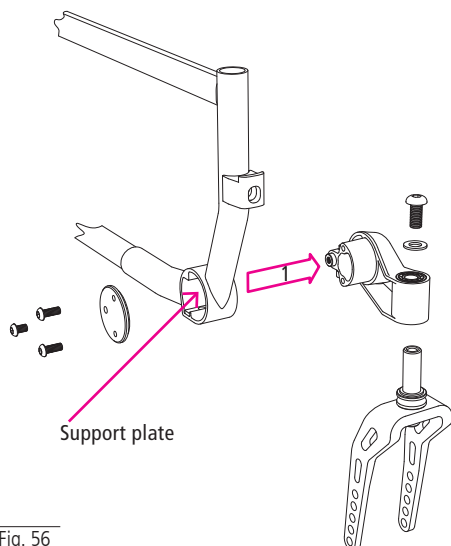

Fig. 56
3. You can now remove the cover cap and pull the castor arm outwards (1, Fig. 56). Please make sure that the support plate is not lost.